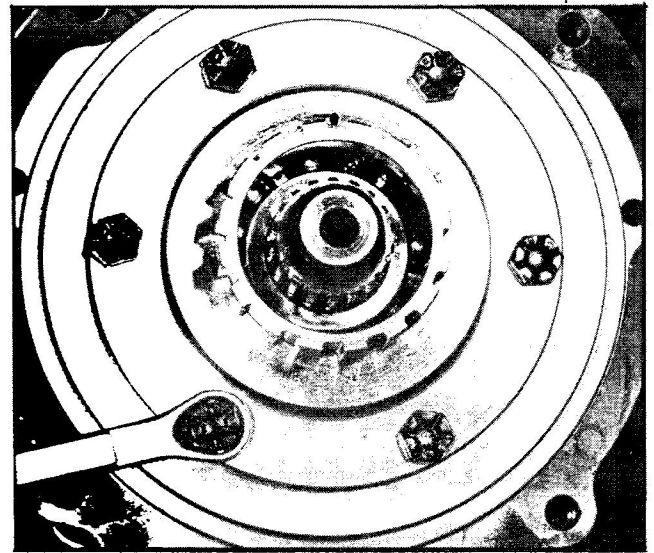

Fig. 29 Remove Bearing Retainer Bolts (2 and 3 to 1 Ratio)
5. Remove bearing retainer to case bolts and bearing retainer, (Figs. 29 and 58).